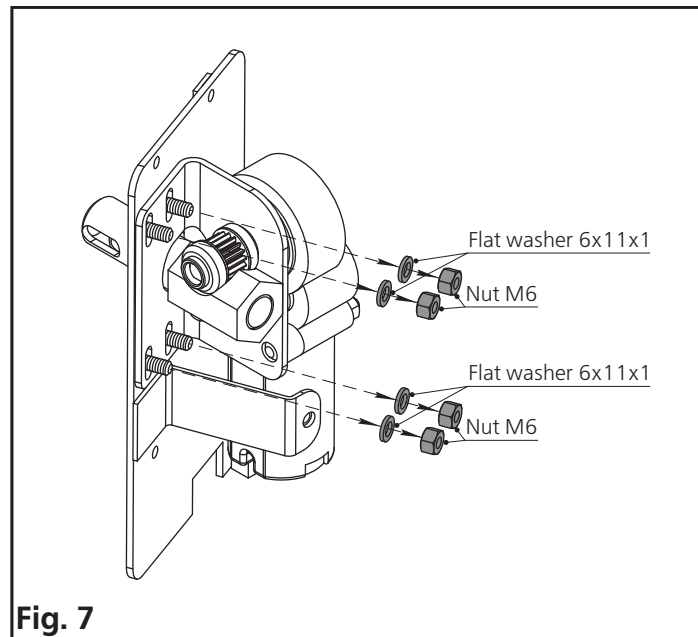
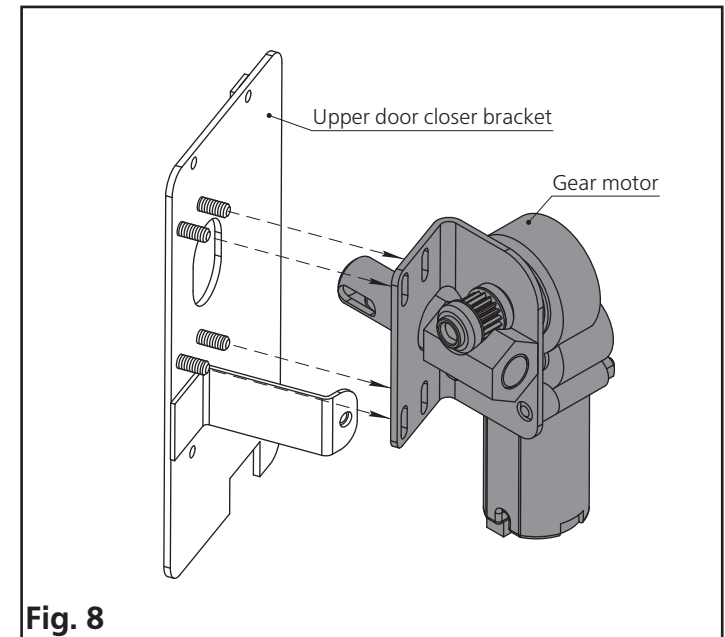

Fig. 7
Fig. 8
6. Disconnect the gear motor from the upper door closer bracket by unscrewing the nuts M6 (Fig. 7 and fig. 8).